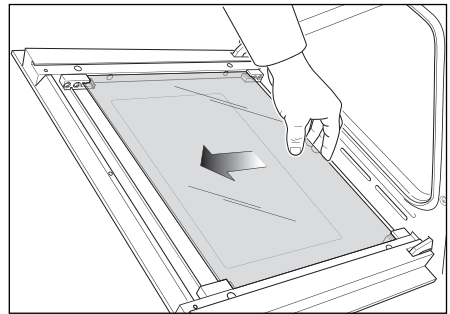

Fig.22b
- Gently unlock the middle pane of glass from the bottom clamps by moving it as in Fig. 22b.